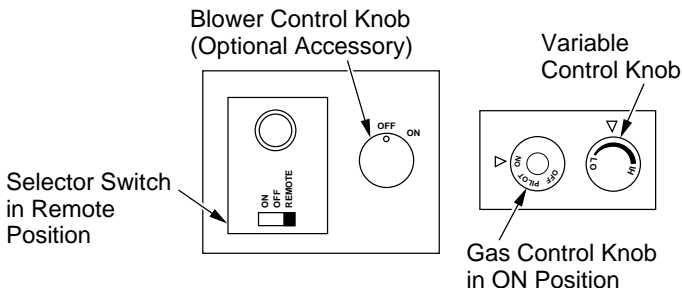

Figure 53 - Setting the Selector Switch, Gas Control Knob, and Variable Control Knob for Remote Operation
1. After lighting, let pilot flame burn for about one minute. Turn control knob to ON position. Adjust flame adjustment knob anywhere between HI and LO. Slide the selector switch to the REMOTE position (see Figure 53). **Note:** The burner may light if hand-held remote was on when selector switch was last turned off. You can now turn the burner on and off with the hand-held remote control unit.